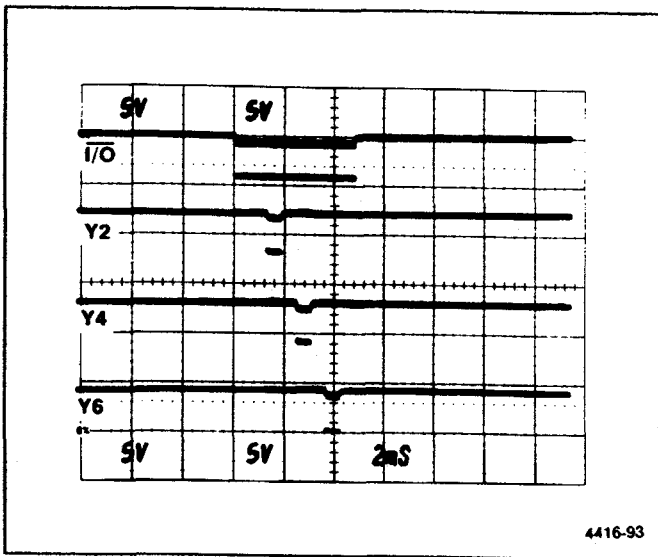

Figure 6-38. Chip selects Y2, Y4, and Y6 in relation to  $\overline{I/O}$ .
**GPIB Board Address Decoders** — Address decoder U1055 on the GPIB board sets its outputs low to select the GPIA, the GPIB address switch and the bank latch. Y2, Y4, and Y6 are shown in relation to  $\overline{T/O}$  in Figure 6-38.